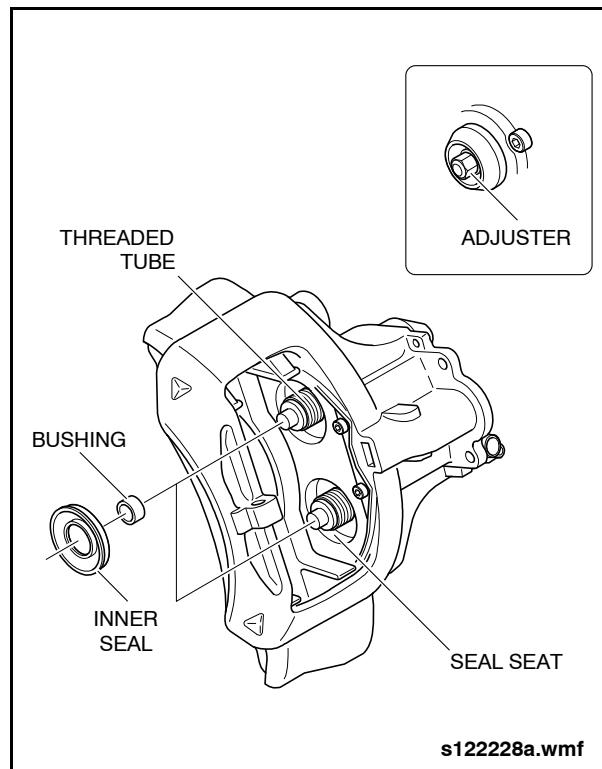

Fig. 2-136: Removing Inner Seal
7. Carefully pry the inner seal out of the seal seat. See "Fig. 2-136: Removing Inner Seal" on page 116.